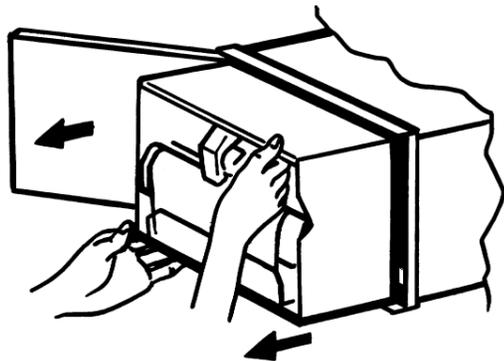

Figure 3 Pull writing system forwards out of case
2. Pull the writing system forwards until it stops, then lift it out of the case (figures 3 and 4), releasing the various cable looms at the same time.